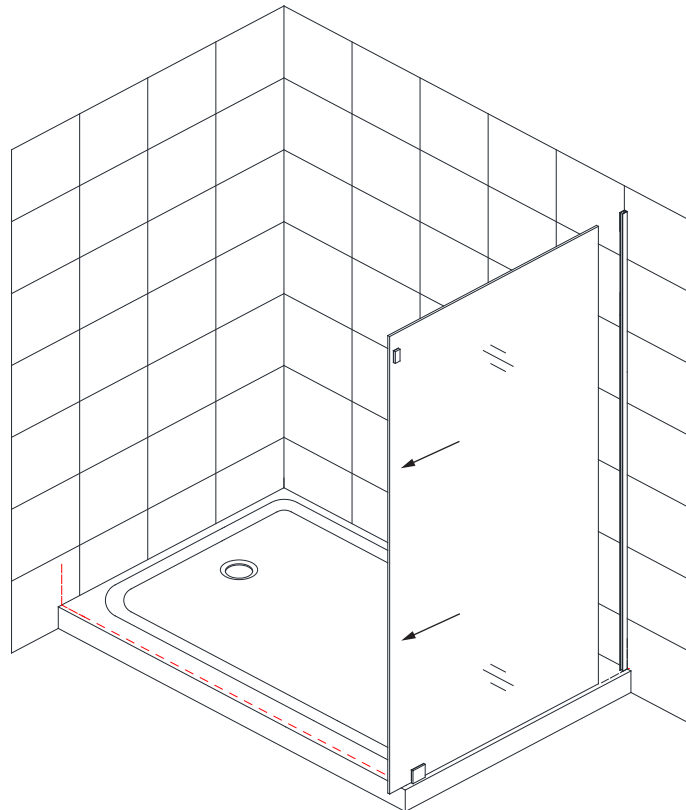
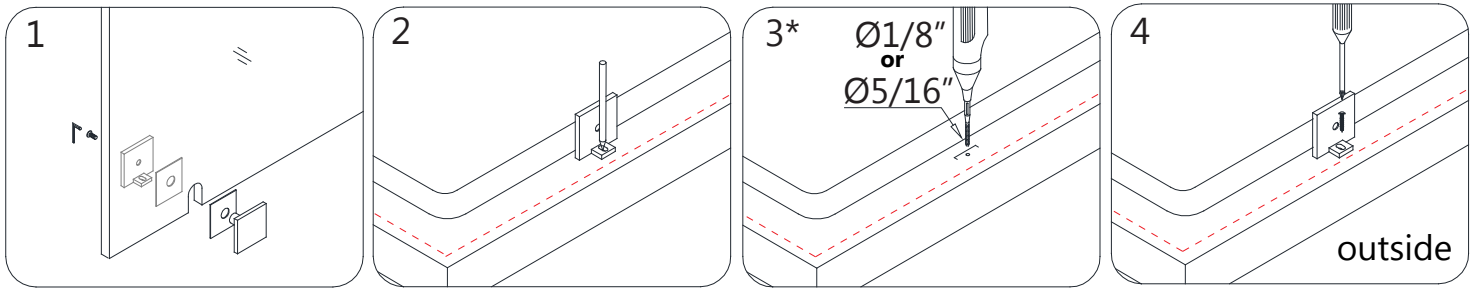

Fig 8
Fig 9
8. Carefully slide the **Return Panel Glass (#22)** out of the **U-Channel (#01)** and set it aside. Remove the **Bottom Bracket (#24)** from the **Return Panel Glass (#22)**. **(Fig 8 and Fig 9)**
(Fig 9)